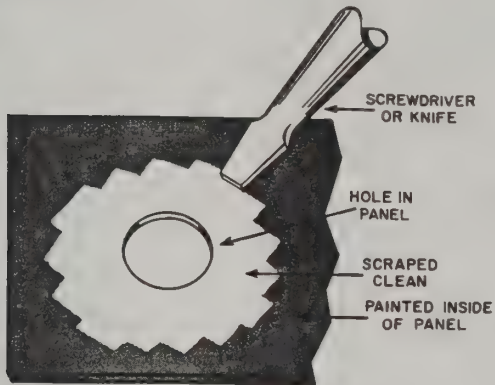

FIGURE 3. HOW TO SCRAPE PAINT
- ☒ On the inside of the chassis, scrape the paint from around the holes used to mount the INPUT and LOAD (J-1 & J-2) coaxial connectors, as shown in Figure 3.
- ☒ On the inside of the chassis, scrape the paint from around the hole marked GND. See Figure 3.